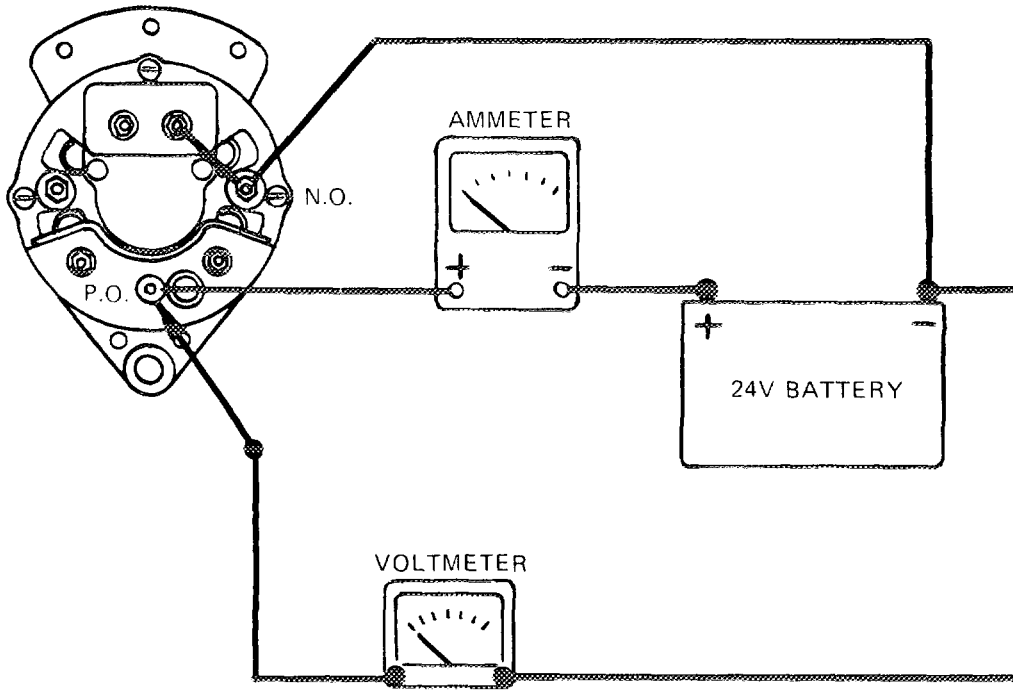

Figure 3-12. Voltage regulator adjustment circuit.
(1) With the engine off, connect a voltmeter to the battery and connect an ammeter in series with output of the alternator as shown in figure 3-12.